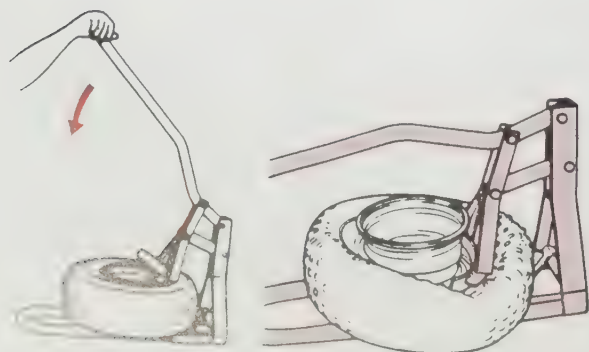

Figure 14-36 Removing an ATV tubeless tire from its rim using a bead breaker. (American Suzuki Motor Corporation)
3. Dismount the bead from the rim completely as shown in **Figure 14-36**.